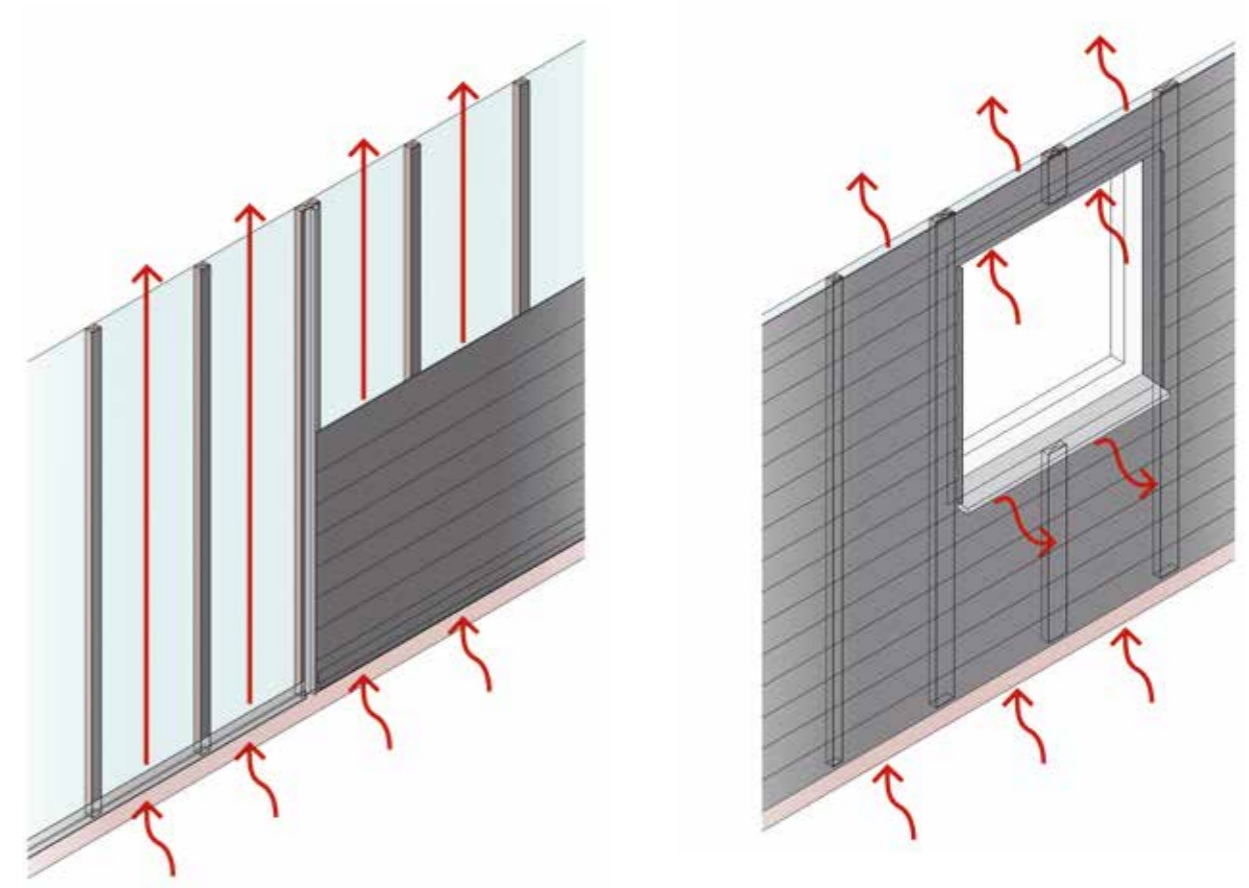

fig.1 – Ventilated Rainscreen
- The system enables a constant flow of air behind the cladding for temperature regulation in extreme environments (fig.1)